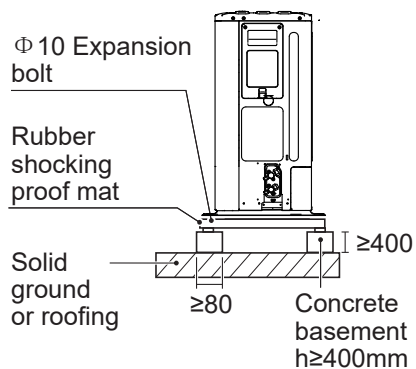

Fig: 6-3
- If water does not easily drain from the unit, mount the unit on a foundation of concrete blocks, etc. (the height of the foundation should be about 400 mm (in Fig:6-3))